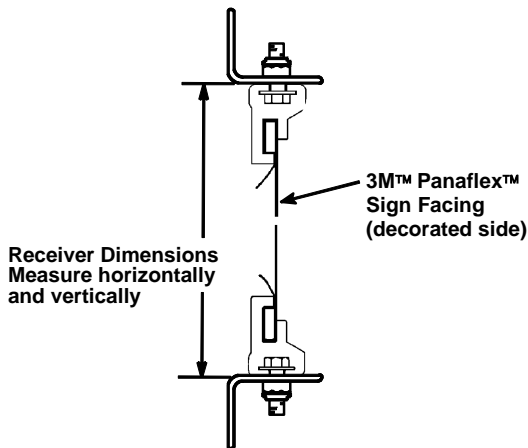

Figure 4. Measure Receiver Dimensions without Hook
- If you are attaching the clamp directly to angle iron, measure the receiver dimensions as shown in Figure 4. Be sure you elongate the holes in the angle iron to allow some lateral movement.